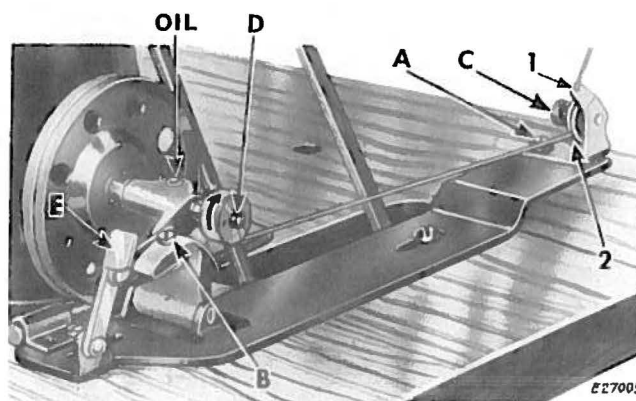

Fig. 7. Winding the Bobbin
Pass the thread down through the thread guide (1) in the tension bracket, around the back of and between the tension discs (2). Then wind the end of the thread around the bobbin a few times in the direction shown in Fig. 7, press down latch E, moving the bobbin winder pulley against the machine belt, and start the machine.
When winding a bobbin with fine thread, a light tension should be used. Adjust the knurled nut C, Fig. 7 to regulate the tension.